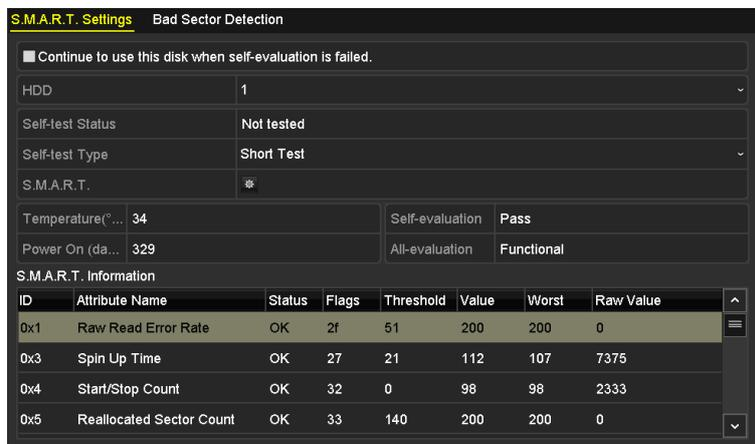

Figure 14-28 S.M.A.R.T Settings Interface
Step 3 Select the HDD to view its S.M.A.R.T. information list, as shown in Figure 14-28.